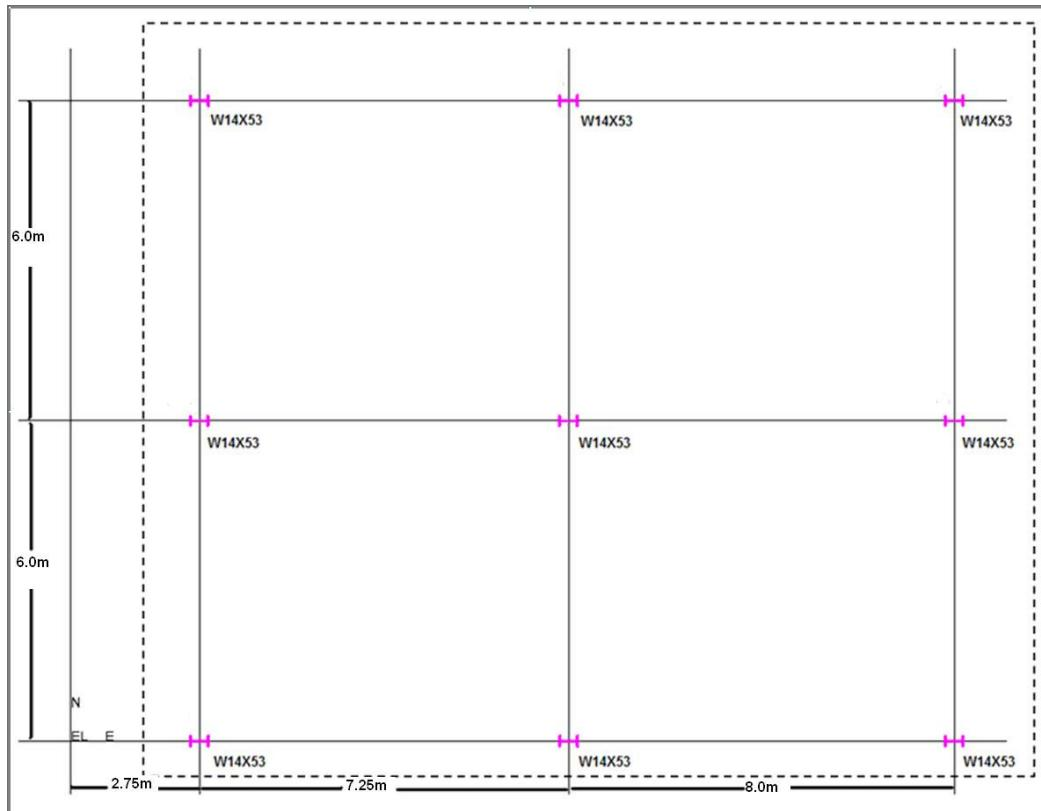

Figure 1 – Floor Plan U03
9. Place a fence around the floor grid intersections as shown in figure 1